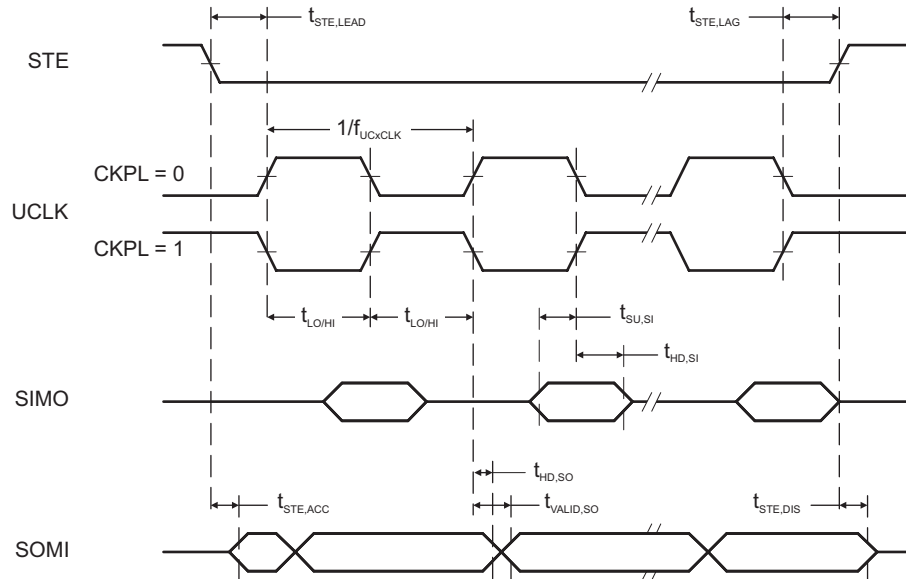
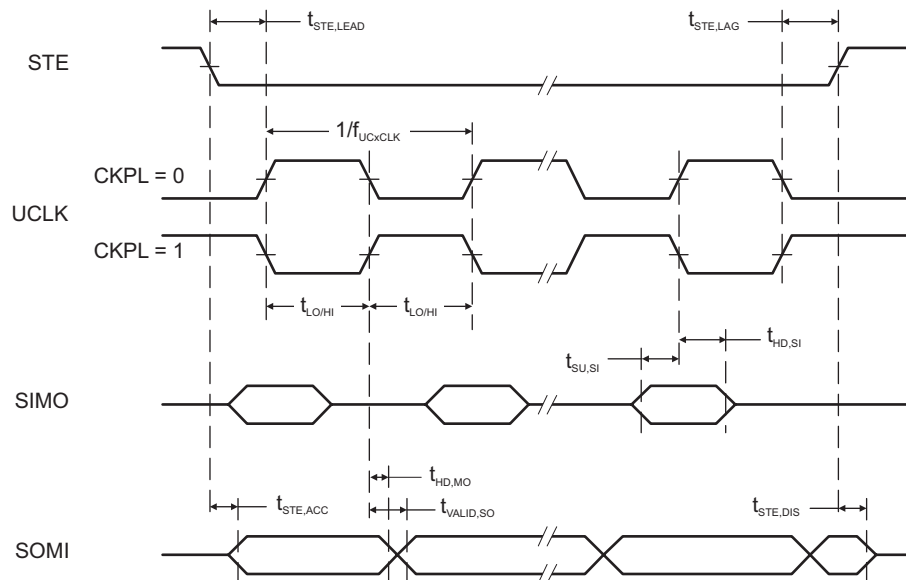

Figure 5-13. SPI Slave Mode, CKPH = 0
Figure 5-14. SPI Slave Mode, CKPH = 1
(see Figure 5-13 and Figure 5-14)
- Specifies the time to drive the next valid data to the SOMI output after the output changing UCLK clock edge. See the timing diagrams in Figure 5-13 and Figure 5-14.
- Specifies how long data on the SOMI output is valid after the output changing UCLK clock edge. See the timing diagrams in Figure 5-13 and Figure 5-14.